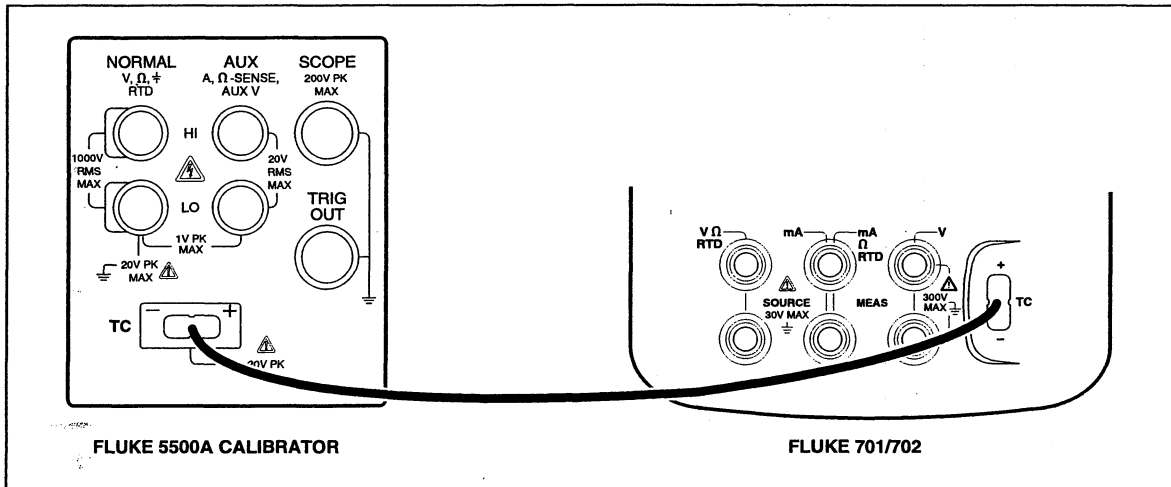

Figure 3-10. Temperature Measure (TC) Verification Connections
1. Use Type-K thermocouple wire and Type-K miniplugs to connect the UUT TC jack to the 5500A TC jack as shown in Figure 3-10, observing correct polarity.